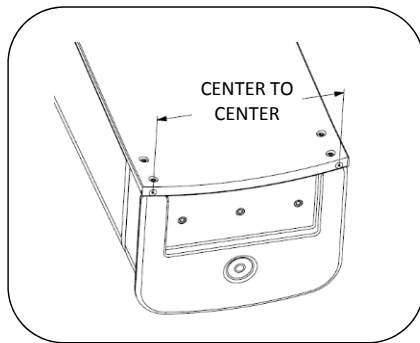

Fig. 1 – measure holes
1. Set unit down on protective padding. Measure hole locations as shown in Fig. 1.